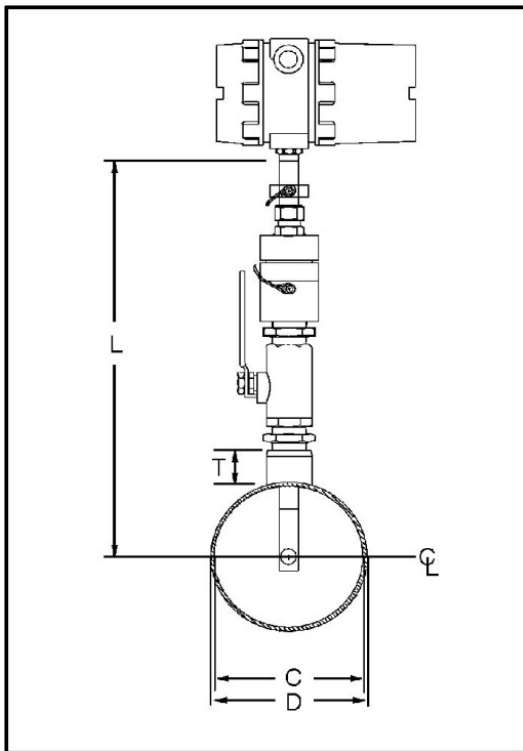
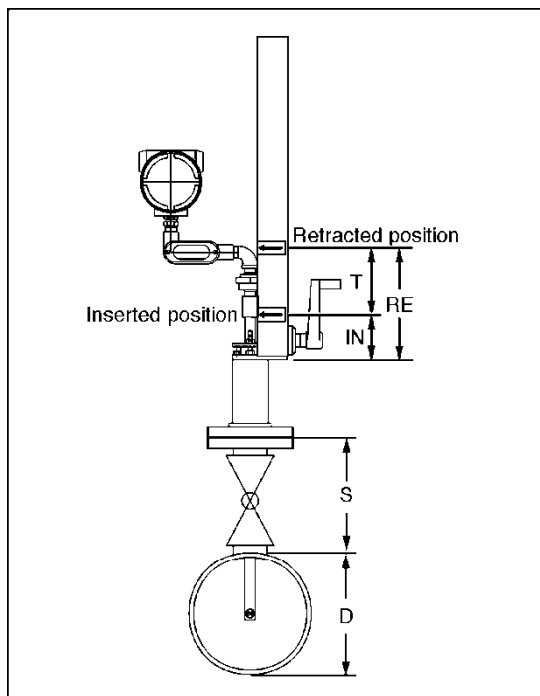

Figure 2-2. Low Pressure Tap Insertion Depth
Figure 2-3. High Pressure Tap Insertion Depth
2. Calculate the flow meter insertion depth as shown in Figure 2-2 for a low pressure tap or Figure 2-3 for a high pressure tap.